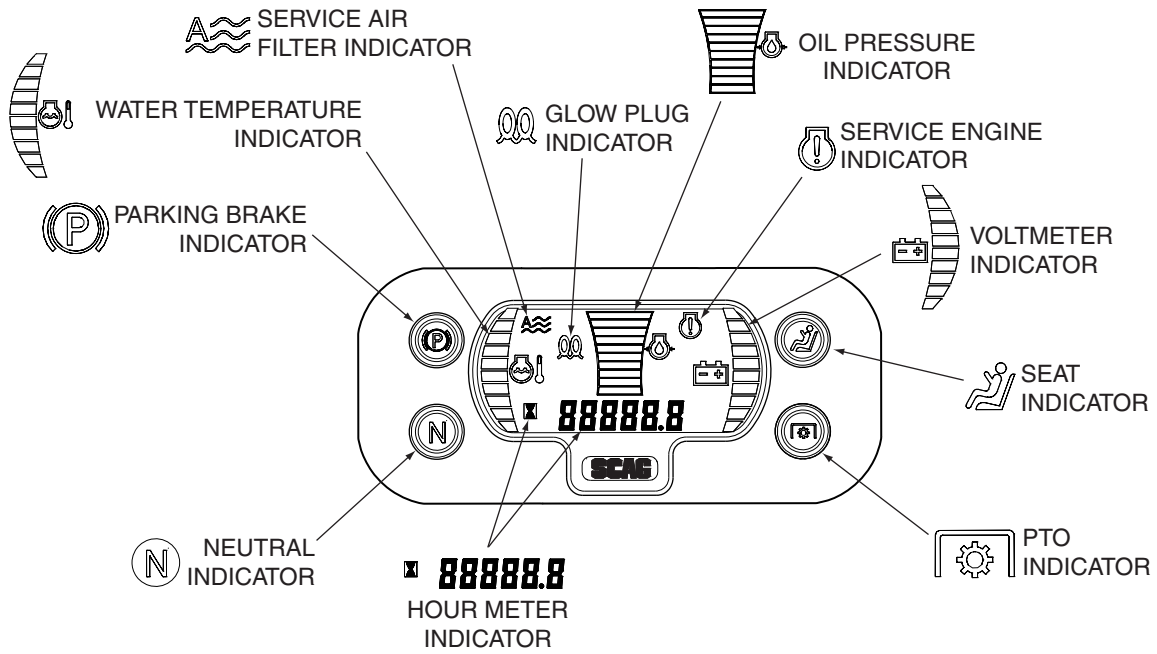

Figure 4-1. Tiger Eye Advanced Monitoring System
1. **Service Air Filter Indicator (Figure 4-1). Optional Accessory.** Indicates the condition of the engine air filter. Icon will display when it is time to change the air filter.
2. **Glow Plug Indicator (Figure 4-1). Used on Diesel Powered Units Only.** Indicator turns on when the key switch is turned to the PREHEAT position. Glow plugs must be preheated for 5 to 10 seconds before starting the engine.
3. **Oil Pressure Indicator (Figure 4-1).** Indicates engine oil pressure. Reference the engine operator's manual for further information.
4. **Service Engine Indicator (Figure 4-1).** Indicates the maintenance reminder for the engine oil change. Has preset maintenance reminder and will start flashing scheduled maintenance 2 hours before preset time and continue flashing until 2 hours after. Automatically resets.
5. **Voltmeter Indicator (Figure 4-1).** Indicates the condition of the charging system. When the engine is running, in normal operating conditions, the bar graph should be in the 12 to 14 volt range.
6. **Seat Indicator (Figure 4-1).** Light will illuminate when the operator is in the seat engaging the seat switch.
7. **PTO Indicator (Figure 4-1).** Light will illuminate when the PTO (mower deck) switch is in the OFF position.
8. **Hourmeter Indicator (Figure 4-1).** Indicates the number of hours the engine has been operated. It only operates when the engine is running. Will start flashing with the Service Engine Indicator at scheduled maintenance 2 hours before preset time and continue flashing until 2 hours after. Automatically resets.
9. **Neutral Indicator (Figure 4-1).** Light will illuminate when the steering control levers are in the neutral lock position.
10. **Park Brake Indicator (Figure 4-1).** Light will illuminate when the park brake is in the engaged (ON) position.
11. **Water Temperature Indicator (Figure 4-1). Used on Liquid Cooled Models Only.** Indicates the operating temperature of the engine. If the engine temperature exceeds the maximum preset value, the indicator will flash and the Park Brake, PTO, Seat and Neutral indicator lights will flash in an alternating pattern.
7. **Brake Pedal (Figure 4-1).** Depressing the brake pedal applies the brake.
Do not travel forward over a curb. The mower will hang up on the curb. Raise the deck and travel backwards over the curb at a 45 degree angle. (See Figure 4-1 items 12-14 for cutter deck raising description.)